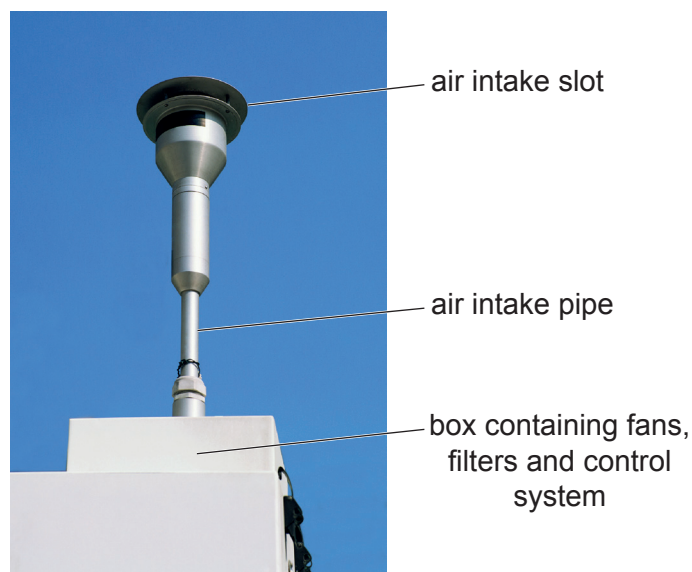

Fig. 4.1
- 4 A weather station has an automated air monitoring system which monitors the air quality in an urban environment. **Fig. 4.1** shows an automated air monitoring system.
- (iii) The automated air monitoring system box, as shown in **Fig. 4.1**, is manufactured from aluminium alloy and has a density of 56 kg m^{-3} .